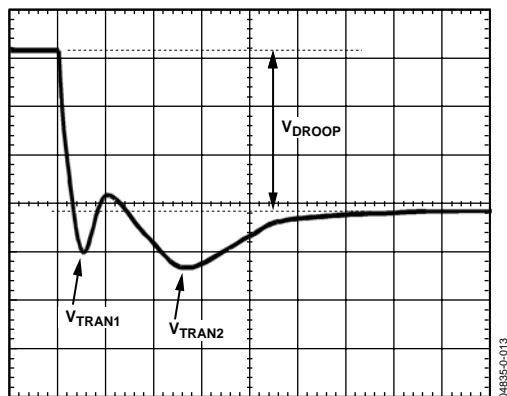
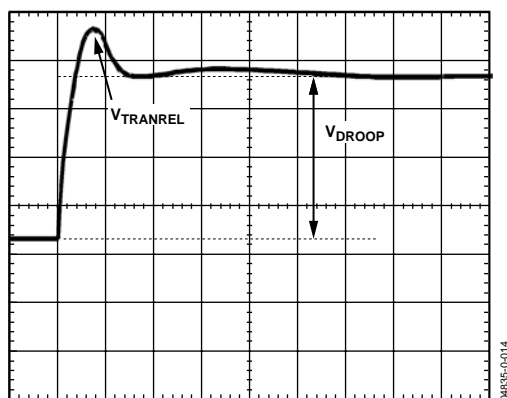

Figure 13. Transient Setting Waveform
Figure 14. Transient Setting Waveform
18. With the dynamic load still set at the maximum step size, expand the scope time scale to see 2 $\mu\text{s}/\text{div}$ to 5 $\mu\text{s}/\text{div}$. The waveform may have two overshoots and one minor undershoot (see Figure 13). Here, V_{DROOP} is the final desired value.
20. For load release (see Figure 14), if V_{TRANREL} is larger than V_{TRAN1} (see Figure 13), there is not enough output capacitance. You need more capacitance or you have to make the inductor values smaller. (If you change inductors, you need to start the design again using the spreadsheet and this tuning procedure.)